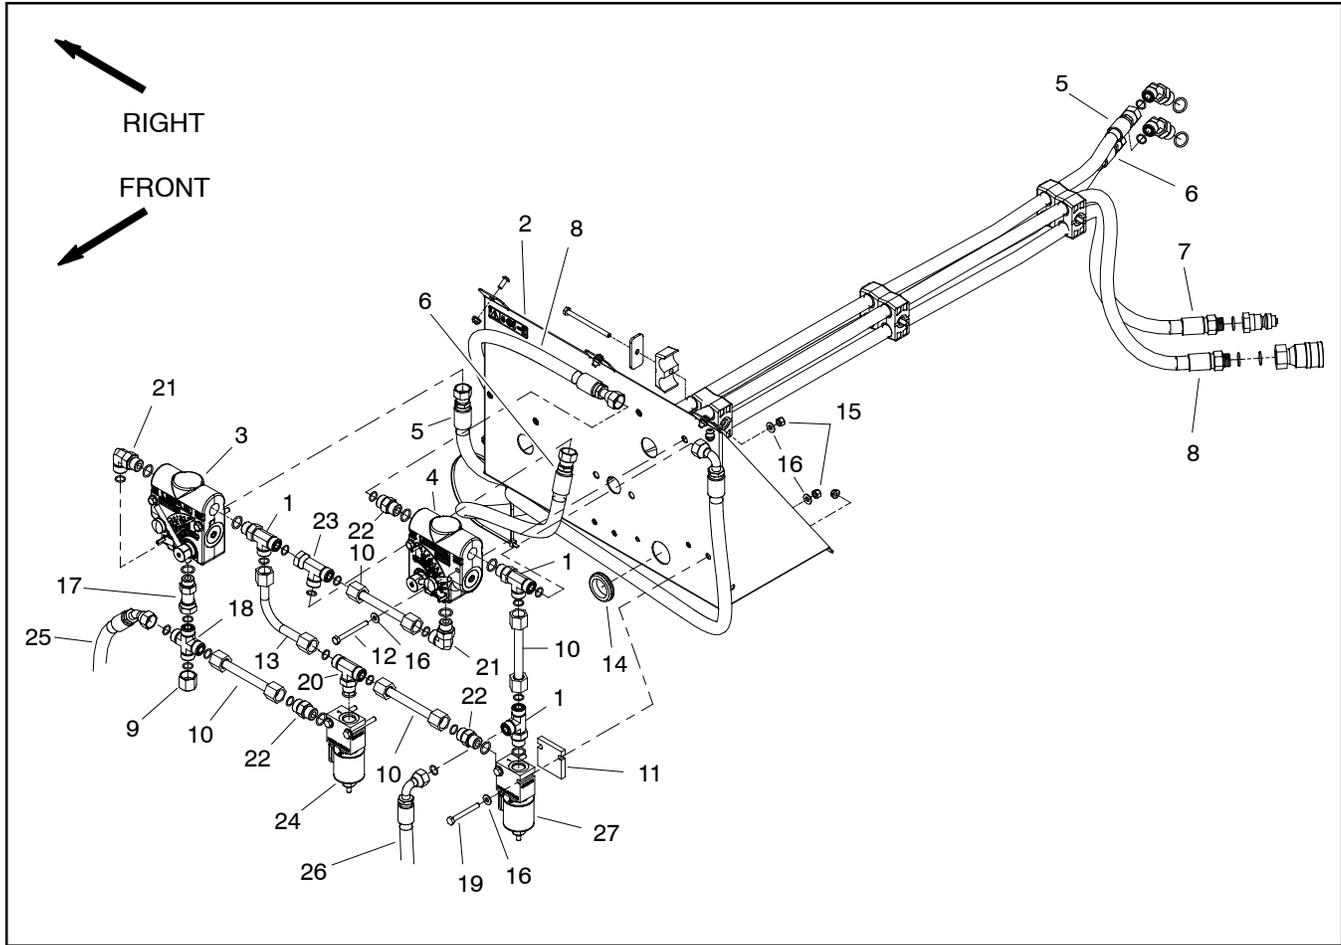

Figure 26
Disassembly (Fig. 26)
5. Remove control system components as needed using Figure 26 as a guide. Allow hydraulic oil to drain from disconnected hydraulic lines into a suitable container. Put caps or plugs on open hydraulic lines and fittings to prevent contamination.
Assembly (Fig. 26)
1. Install all removed control system components using Figure 26 as a guide.